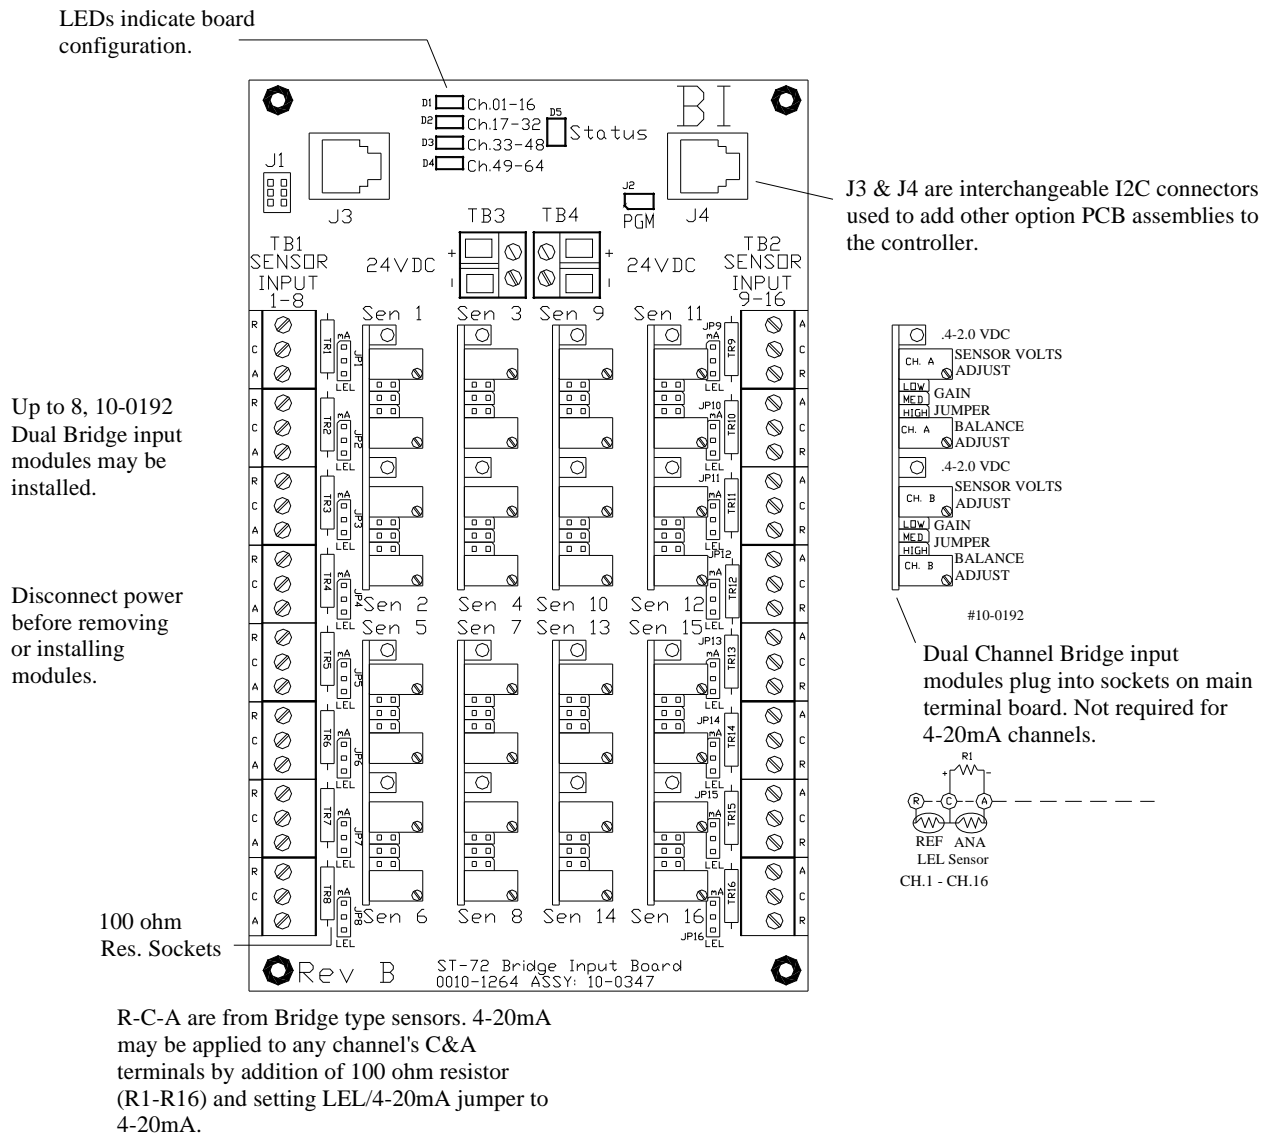

Figure 3-4
1. Prior to connecting sensors, apply power to the system. Note this board requires 24VDC power be connected to its TB3 or TB4 terminals 1 & 2 as shown in Figure 3-4. Measure the voltage between each channel's A and R terminals and set the *Voltage Adjust* potentiometers for the correct sensor excitation voltage. This may range from 1.5 volts to 7.5 volts depending upon sensor specifications.